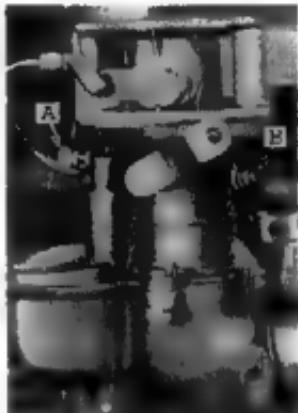

Fig. 28—Updraft Carburetor with Governor
**Maintenance — Updraft Carburetor.** Warm up engine to normal operating temperature and make sure choke and throttle knobs are in all the way. Adjust the engine speed to 450 to 500 revolutions per minute by turning the throttle stop screw "B" in or out as desired (fig. 28).